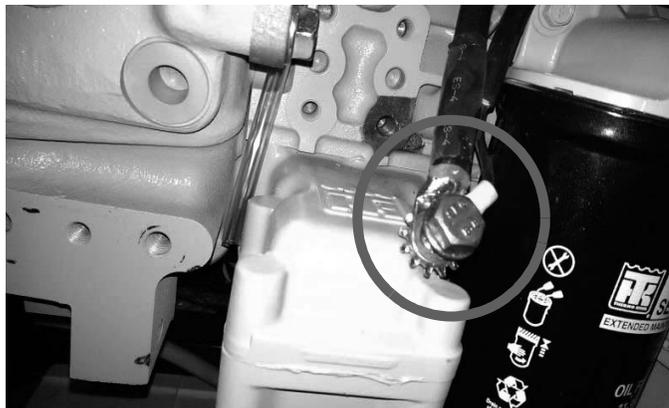

Figure 6 (Note external lock washer position)
8. Attach black wire to the engine block ground stud behind the oil filter (**Figure 6**). **NOTE: The solar panel harness terminal ring should be installed under the flat washer followed by the large ground cable and the external lock washer last.**